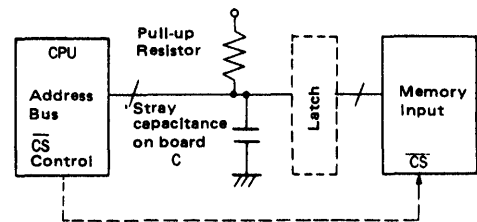

Figure 3-7
- A: Insert latch as shown in Figure 3-7 lest Address Input should become floating.